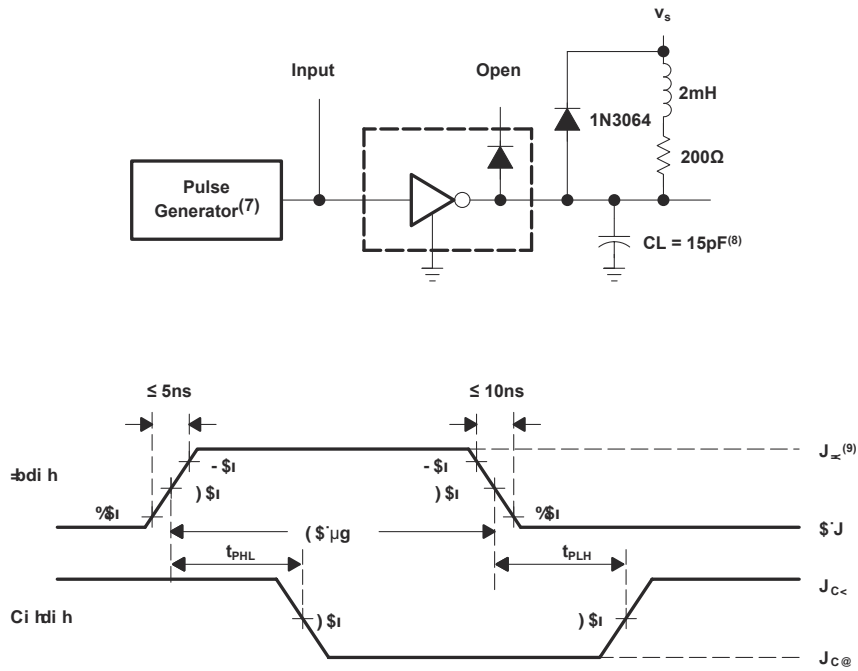

Figure 8. Latch-Up Test Circuit and Voltage Waveform
- Page 8 , Parameter Measurement Information, added Figure 8. Latch-Up Test Circuit and Voltage Waveform;